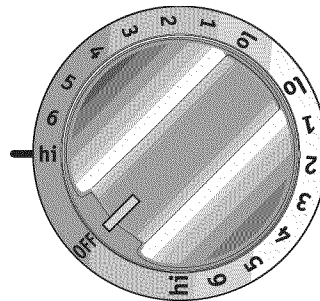

Figure 1
2. Push in and turn the control knob as shown in Figure 1 for smaller cookware or in Figure 2 for larger cookware.